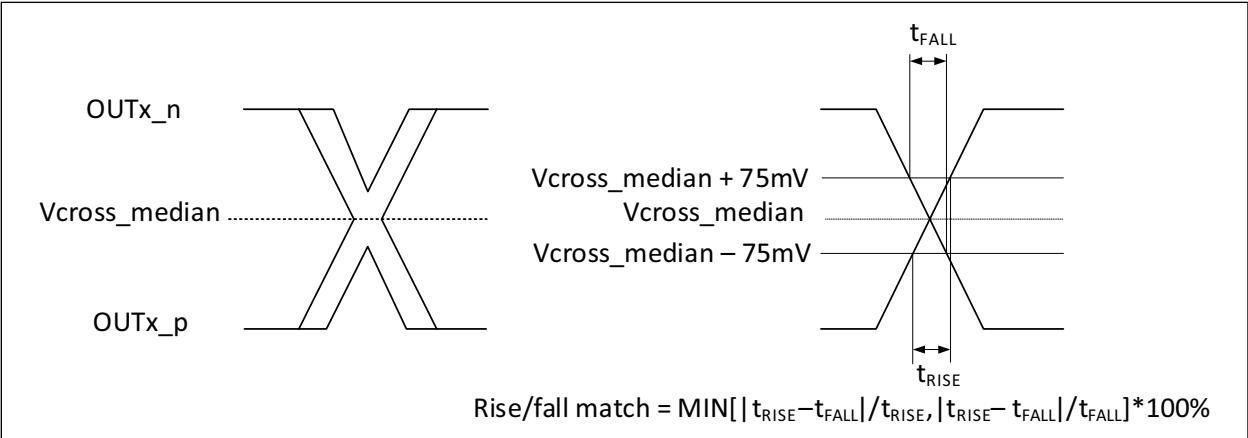

FIGURE 1-3: Single-Ended Measurement Points for Rise and Fall Time Matching.
- 10:** Matching applies to rising edge rate for $OUTx_p$ and falling edge rate for $OUTx_n$. It is measured using a $\pm 75\text{ mV}$ window centered on the median cross point where $OUTx_p$ rising meets $OUTx_n$ falling. The median cross point is used to calculate the voltage thresholds the oscilloscope is to use for the edge rate calculations. The Rise Edge Rate of $OUTx_p$ should be compared to the Fall Edge Rate of $OUTx_n$; the maximum allowed difference should not exceed 20% of the slowest edge rate. See Figure 1-3.